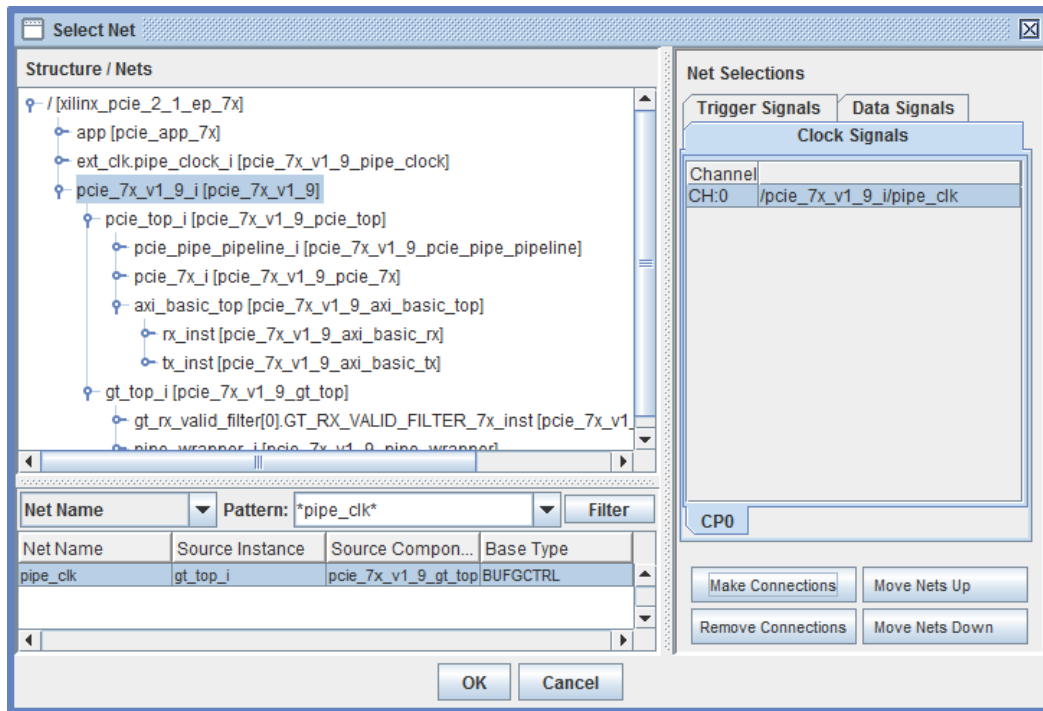

Figure 86: ChipScope Pro Inserter - Selecting Clock Signal
- Select pipe_clk for the clock signal (Figure 86).